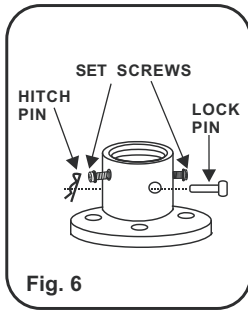

Fig. 6
**Step 2.** Loosen the two set screws and remove the hitch pin and lock pin from the top coupling of the motor assembly.(Fig 6)